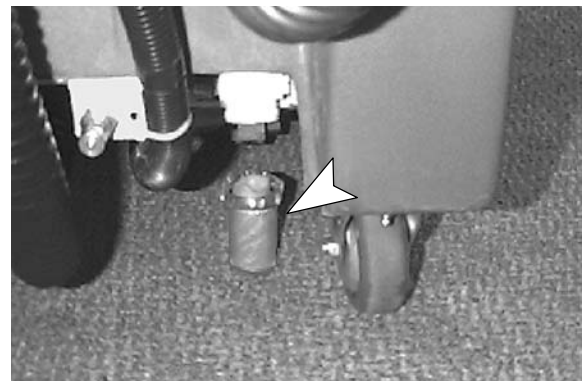

FIG. 23
- Remove inline strainer filter and rinse out. Make sure solution tank is empty before removing filter. Filter is located under machine at rear (Figure 23).